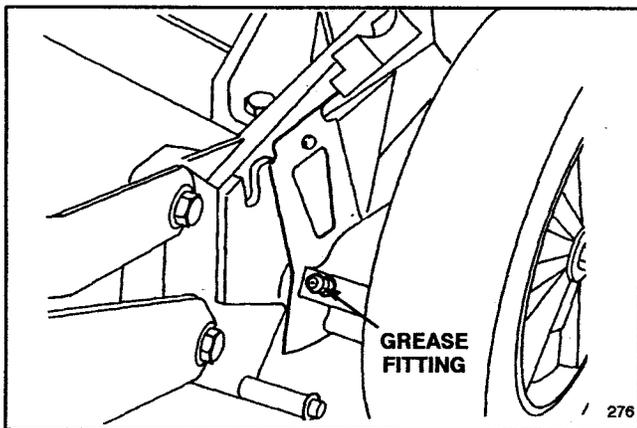

Figure 28
2. Move rear wheel height-of-cut levers to “C” setting. Wipe grease fittings with clean rag (Fig. 28). Install grease gun onto fitting and gently apply two or three pumps of #2 Multi-Purpose Lithium Base Grease.